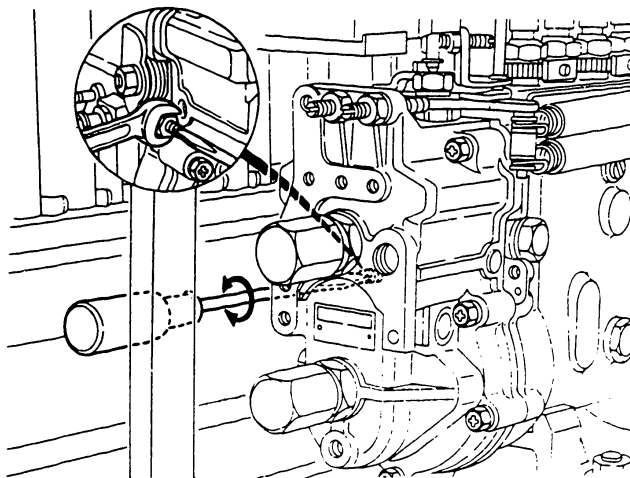

Fig. 151 Adjusting the full-load setting bolt
3. Adjust the full-load setting bolt (173) so that the control rack position is  $R_f$  mm when the pump speed is  $N_f$  rpm. (Figs 151 and 152)